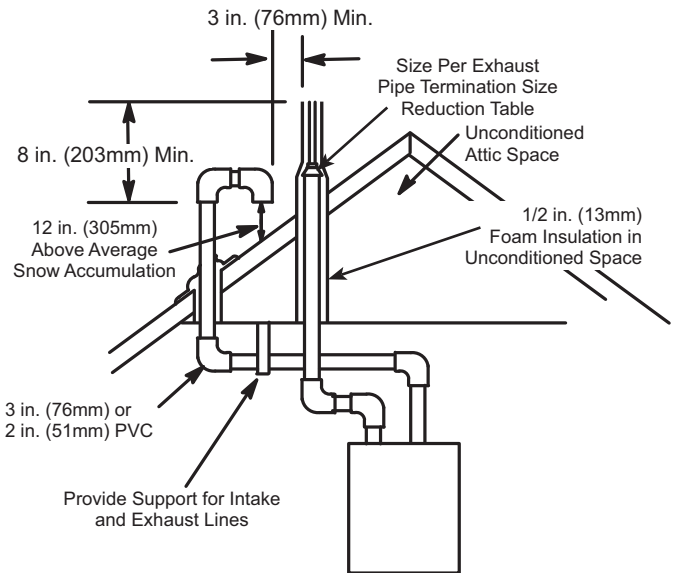

Figure 26. Direct Vent Roof Termination Kit (15F75 or 44J41)
3. On roof terminations, the intake piping should terminate straight down using two 90° elbows (**Figure 26**).